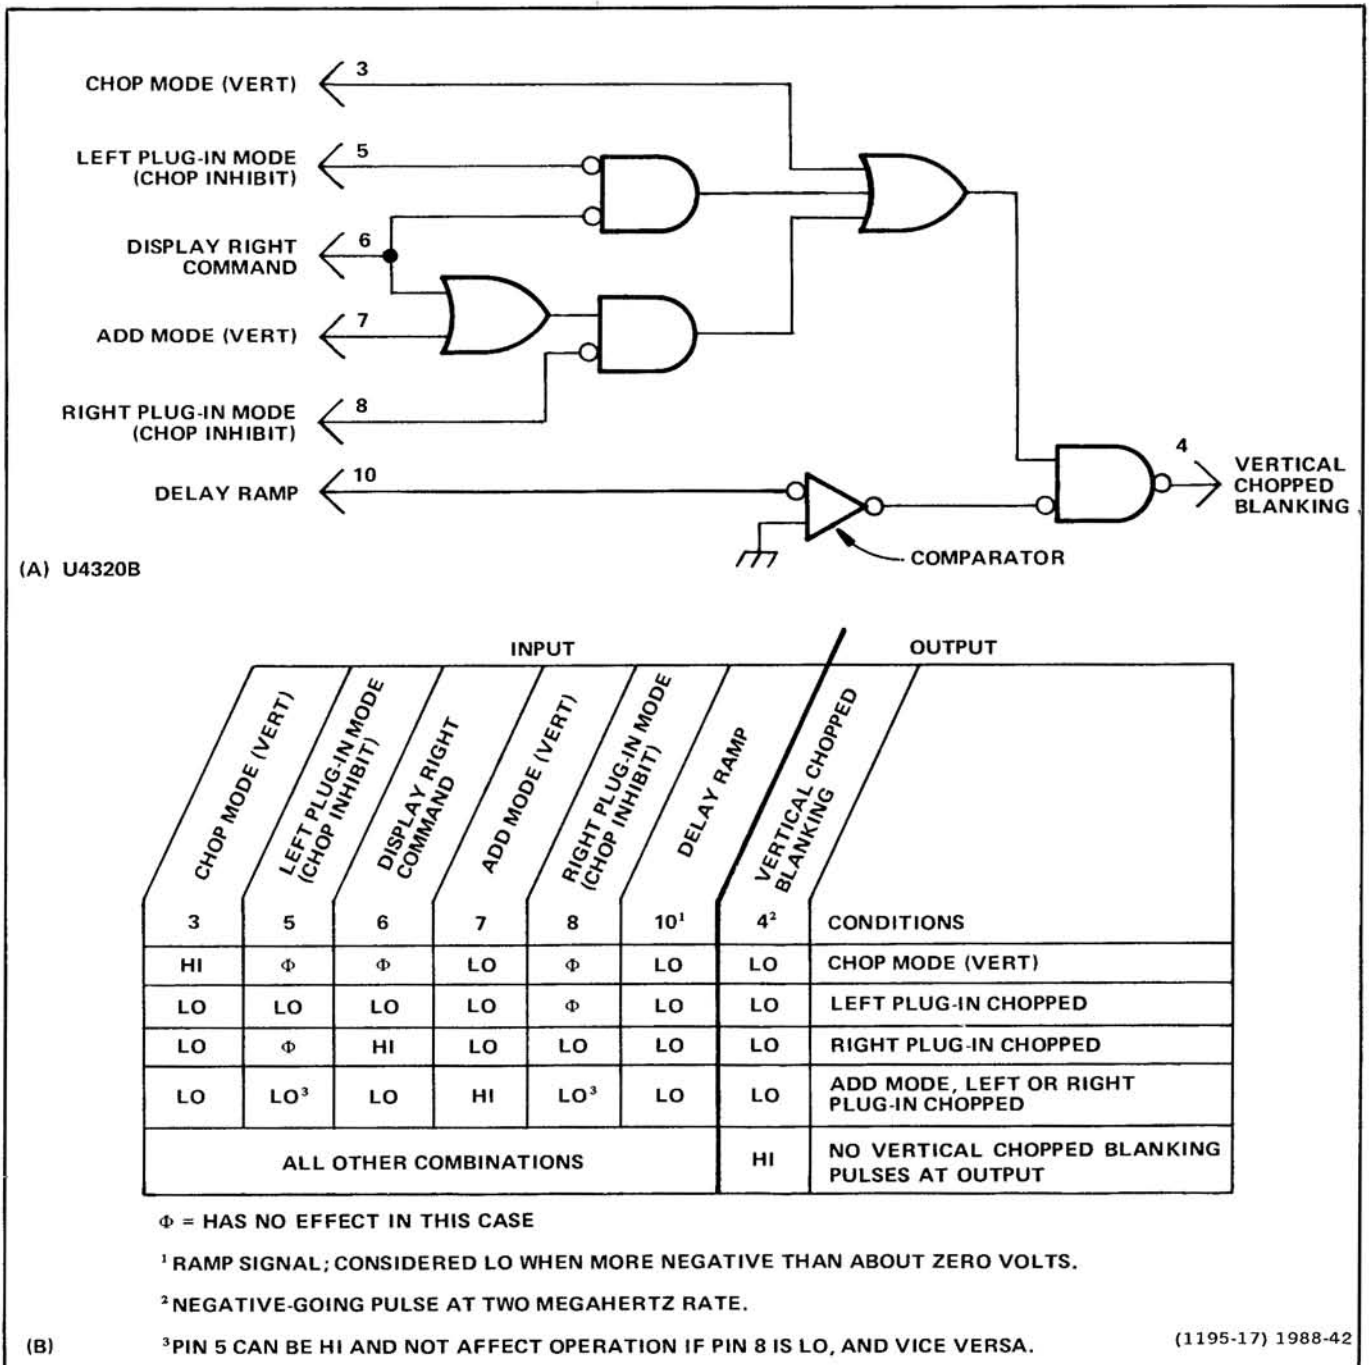

Figure 4-13. (A) Logic diagram for Vertical Chopped Blanking stage; (B) Table of input/output combinations.
Figure 4-13 shows a logic diagram and an input/output table for the Vertical Chopped Blanking stage. Notice the comparator block on the diagram. The output of this comparator is determined by the relationship between the levels at its inputs. If pin 10 is more positive (HI) than the grounded input, the output is HI also; if it is more negative, the output is LO.